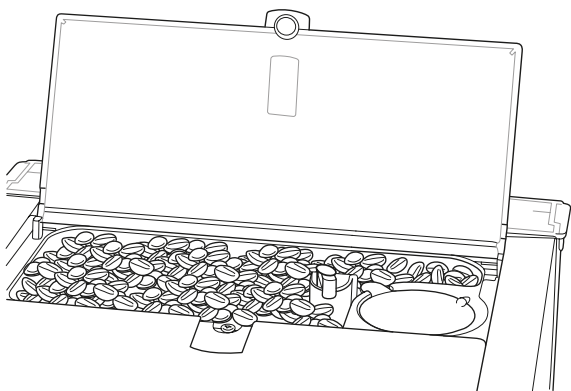

Fig. 4: Adding beans
- Fill the bean container with coffee beans (Fig. 4)